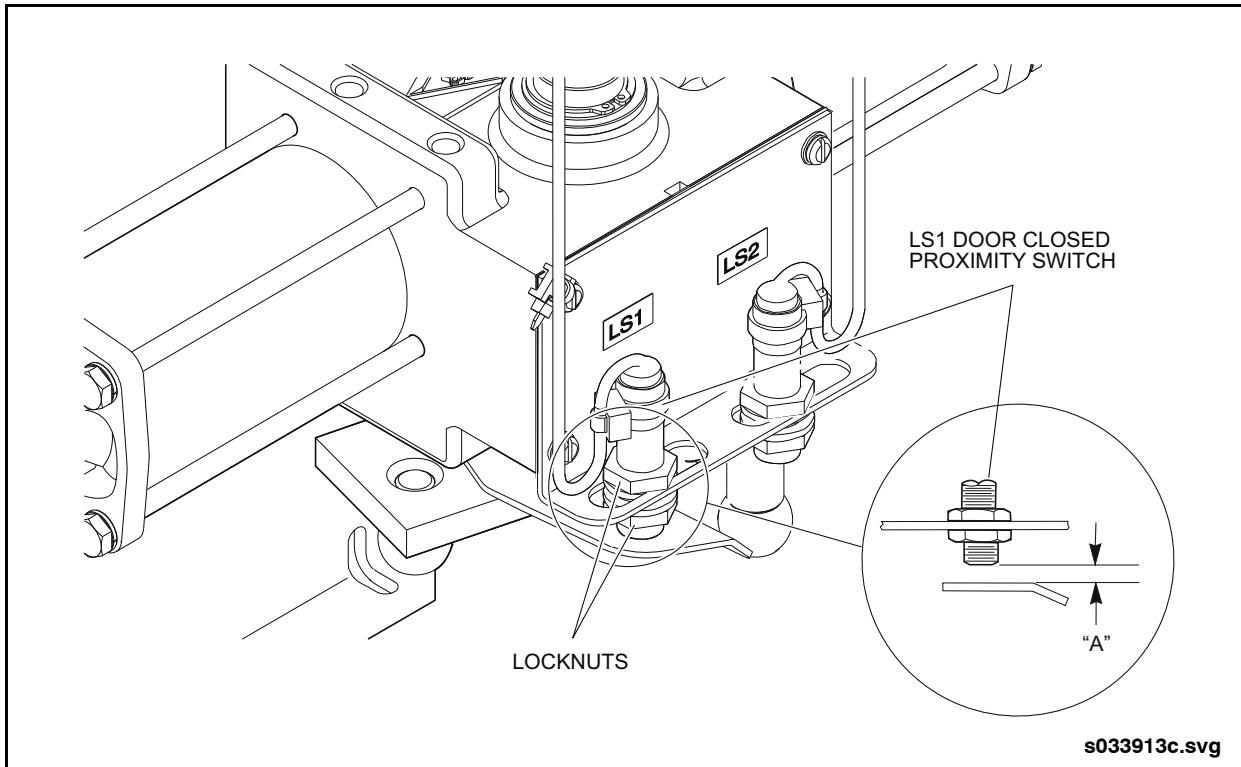

Fig. 16-6: Proximity Switch Adjustment
2. Use a feeler gauge to measure gap between teeter lever and bottom of the LS1 proximity switch. Loosen switch lock nuts as required and adjust switch to obtain a gap of 0.080 ± 0.010 inches (2.00 ± 0.13 mm). See "Fig. 16-6: Proximity Switch Adjustment" on page 16.